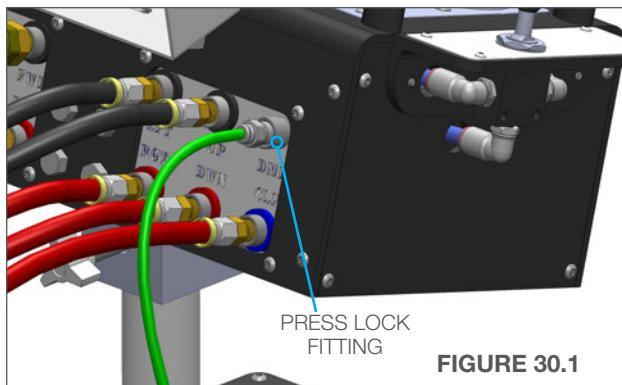

FIGURE 30.1
3. Connect the other end of the Dump Control Line to the Press Lock Fitting on the back of the Control Box. (**Figure 30.1**)